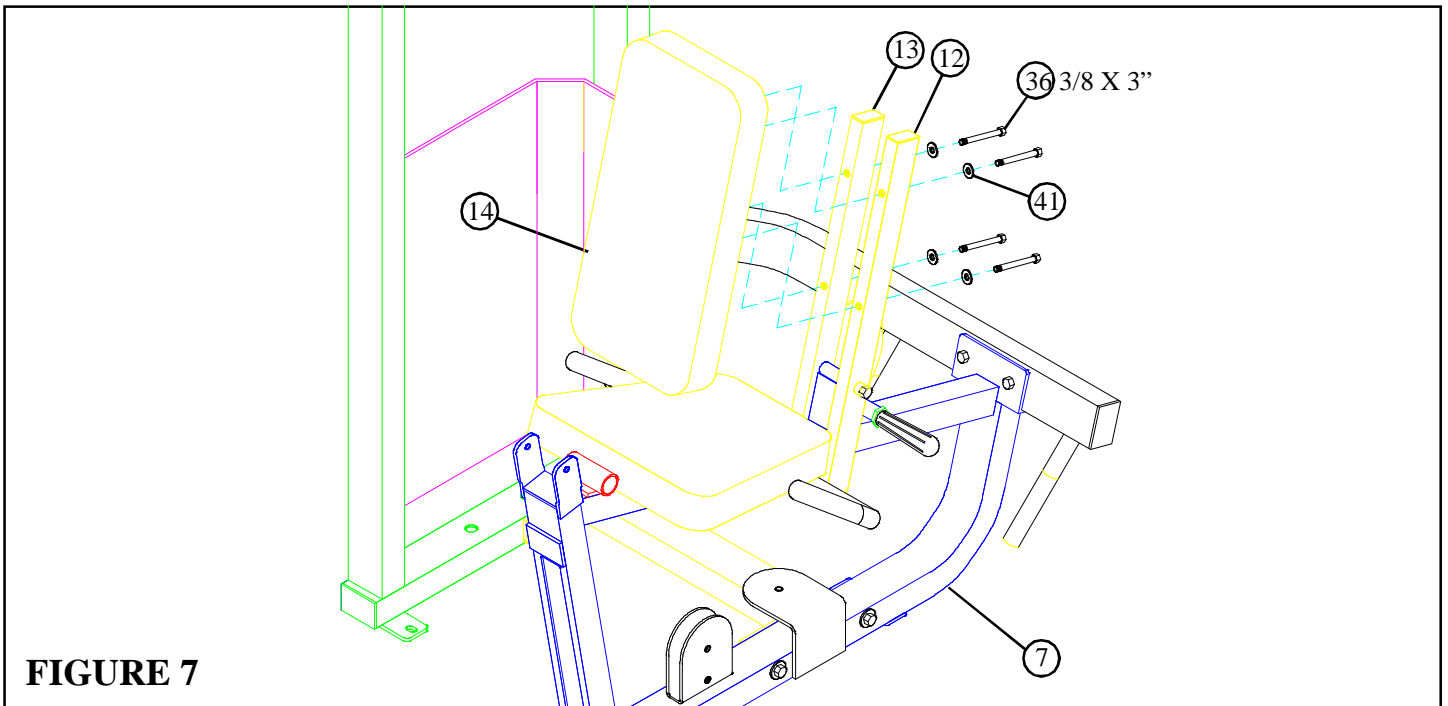

FIGURE 7
- **SECURELY** assemble BACK PAD (14) to the RIGHT & LEFT PAD SUPPORTS (12) (13) using four 3/8 X 3” BOLTS (36) and four 3/8” WASHERS (41) as shown in FIGURE 7.